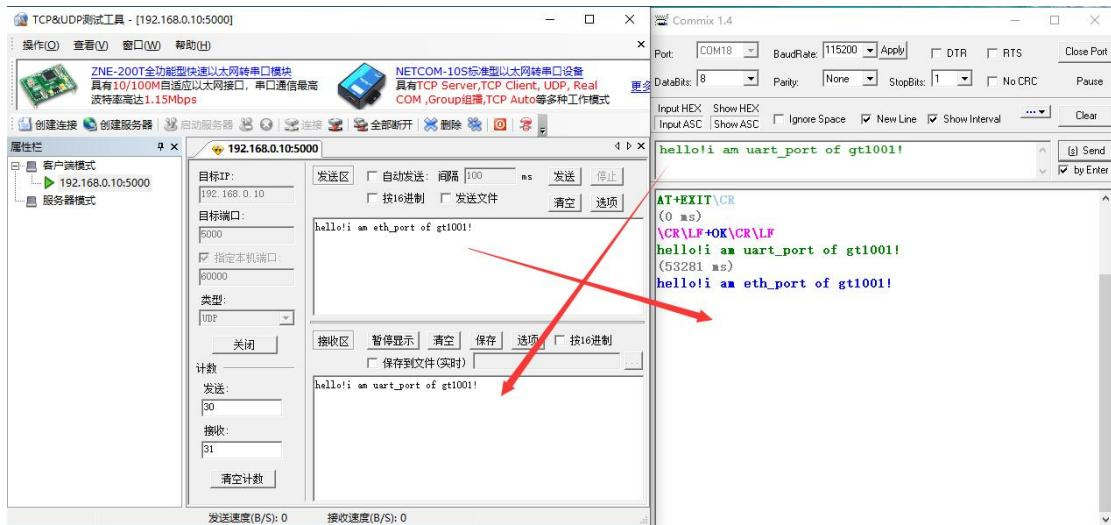

Figure 6-8 UDP Data Transmission
- 4) Click Create to enter the data transmission interface, and the data communication is as shown in Figure 6-8.